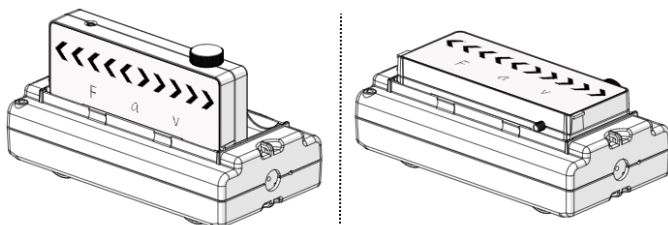

Figure 1. The Vector Display put in a Smart Cart in an upright (left) and flat (right) position.
2. Put the display on the cart in an upright or flat position, as shown in Figure 1: